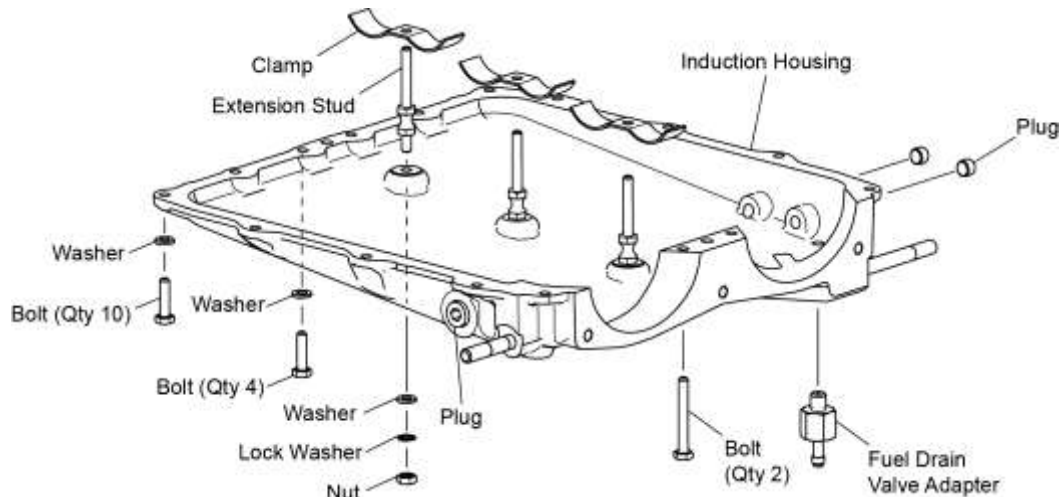

Figure 3
The fuel drain valve adapter (Figure 3) is a valve in the induction system that closes during engine operation and opens when the engine is shut down to allow excess fuel to drain from the induction system. If the valve is not operating correctly it can either allow outside air into the induction system during engine operation or fail to drain excess fuel from the induction system when the engine is shut down.
A. Remove the fuel drain valve adapter assembly from the induction housing (Figure 3).
- (1) Remove the 10 bolts, 20 washers, 10 lock washers, and nuts from the induction housing and oil sump (Figure 3). Discard the lock washers.
- (2) Remove the four bolts and washers from the induction housing.
- (3) Remove the induction housing.